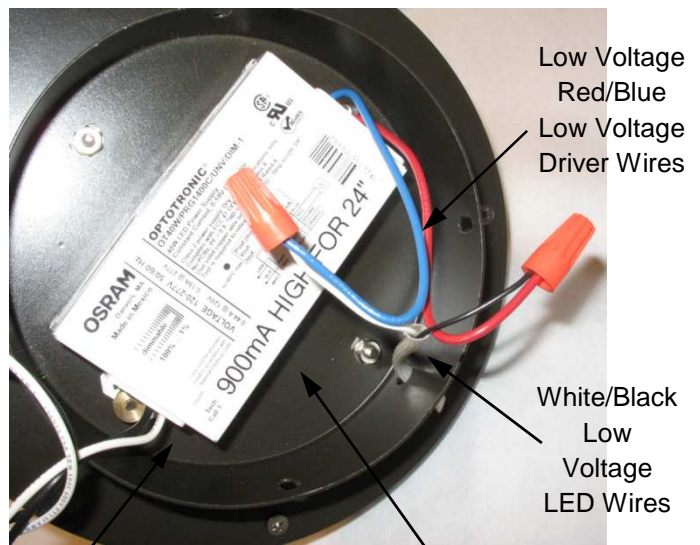

Figure 4
Step 5: Connect the LED Wires to the Low Voltage Red/Blue Low Voltage Driver Wires. Driver Red (pos) to LED Black (pos) , Driver Blue/Black (neg) to LED White (neg). Figure 4